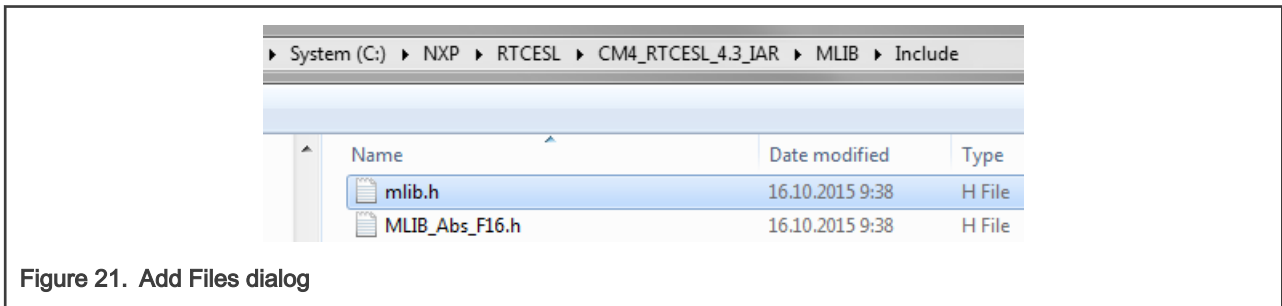

Figure 21. Add Files dialog
5. Navigate into the library installation folder C:\NXP\RTCESL\CM4\_RTCESL\_4.6\_IAR\MLIB\Include, and select the *mlib.h* file. (If the file does not appear, set the file-type filter to Source Files.) Click Open. See Figure 21.